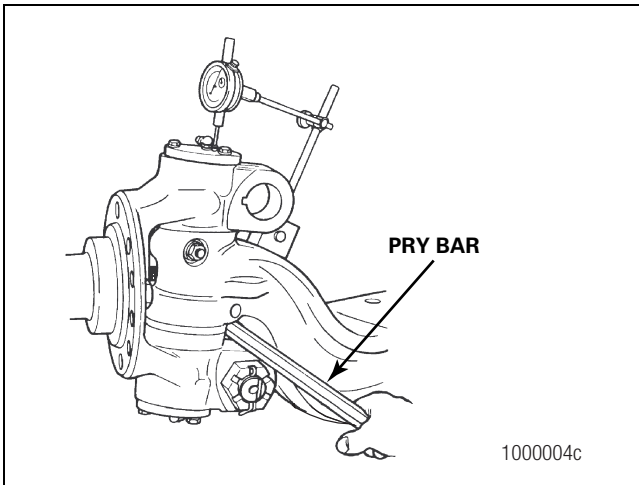

Figure 6
- Measure the vertical end play. Add or remove shims until the end play is within specification for your application. Refer to Maintenance Manual 2 for complete end play check procedures and specifications. Figure 6.